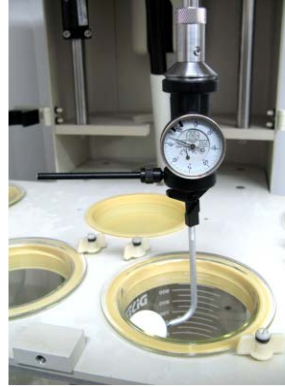

Figure 17
4.9.1.1 Raise the dissolution tester to its highest position. Remove any existing paddle or basket shaft and replace it with the Indicator Shaft with Gage as shown in Figure 17.